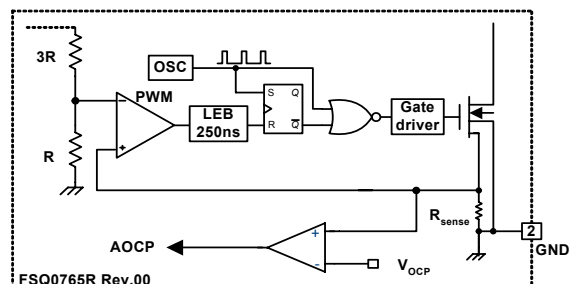

Figure 30. Abnormal Over-Current Protection
**4.2 Abnormal Over-Current Protection (AOCP):** When the secondary rectifier diodes or the transformer pins are shorted, a steep current with extremely high di/dt can flow through the SenseFET during the LEB time. Even though the FSQ-series has overload protection, it is not enough to protect the FSQ-series in that abnormal case, since severe current stress is imposed on the SenseFET until OLP triggers. The FSQ-series has an internal AOCP circuit shown in Figure 30. When the gate turn-on signal is applied to the power SenseFET, the AOCP block is enabled and monitors the current through the sensing resistor. The voltage across the resistor is compared with a preset AOCP level. If the sensing resistor voltage is greater than the AOCP level, the set signal is applied to the latch, resulting in the shutdown of the SMPS.